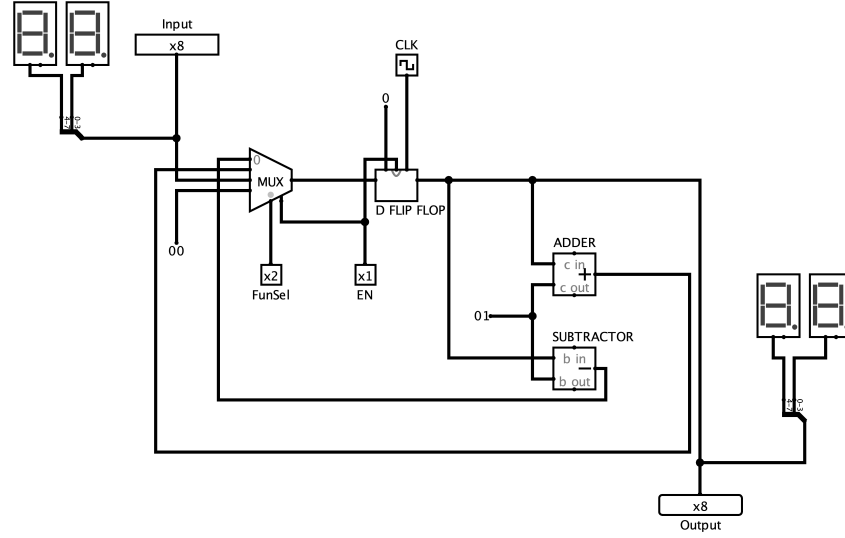
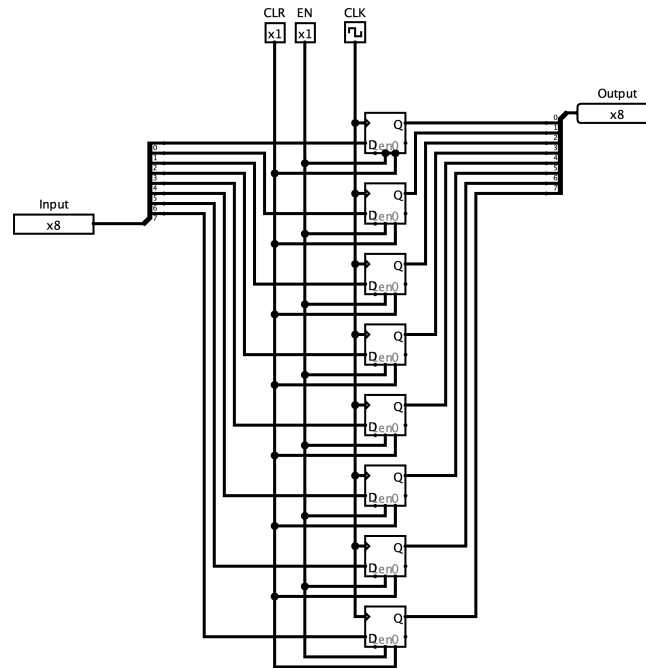

Figure 2: Logisim Circuit For Part 1.a
Figure 3: Logisim Circuit For D FLIP FLOP(8-bit)
As shown in Figure 2, there are following components in our design:
- **D FLIP FLOP:** This is a library that we designed to minimize the circuit in the Figure 2. As shown in Figure 3, it has 8 parallel D Flip Flops. Its 8-bit input is the output of MUX. D Flip Flops are used as the memory units.